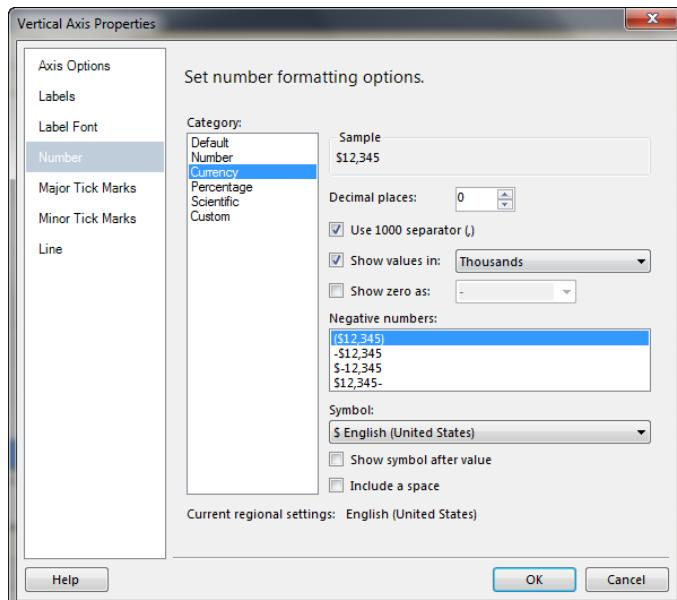

Figure 6-8
4. Change the Category to Currency and make the following modifications (see Figure 6-8):